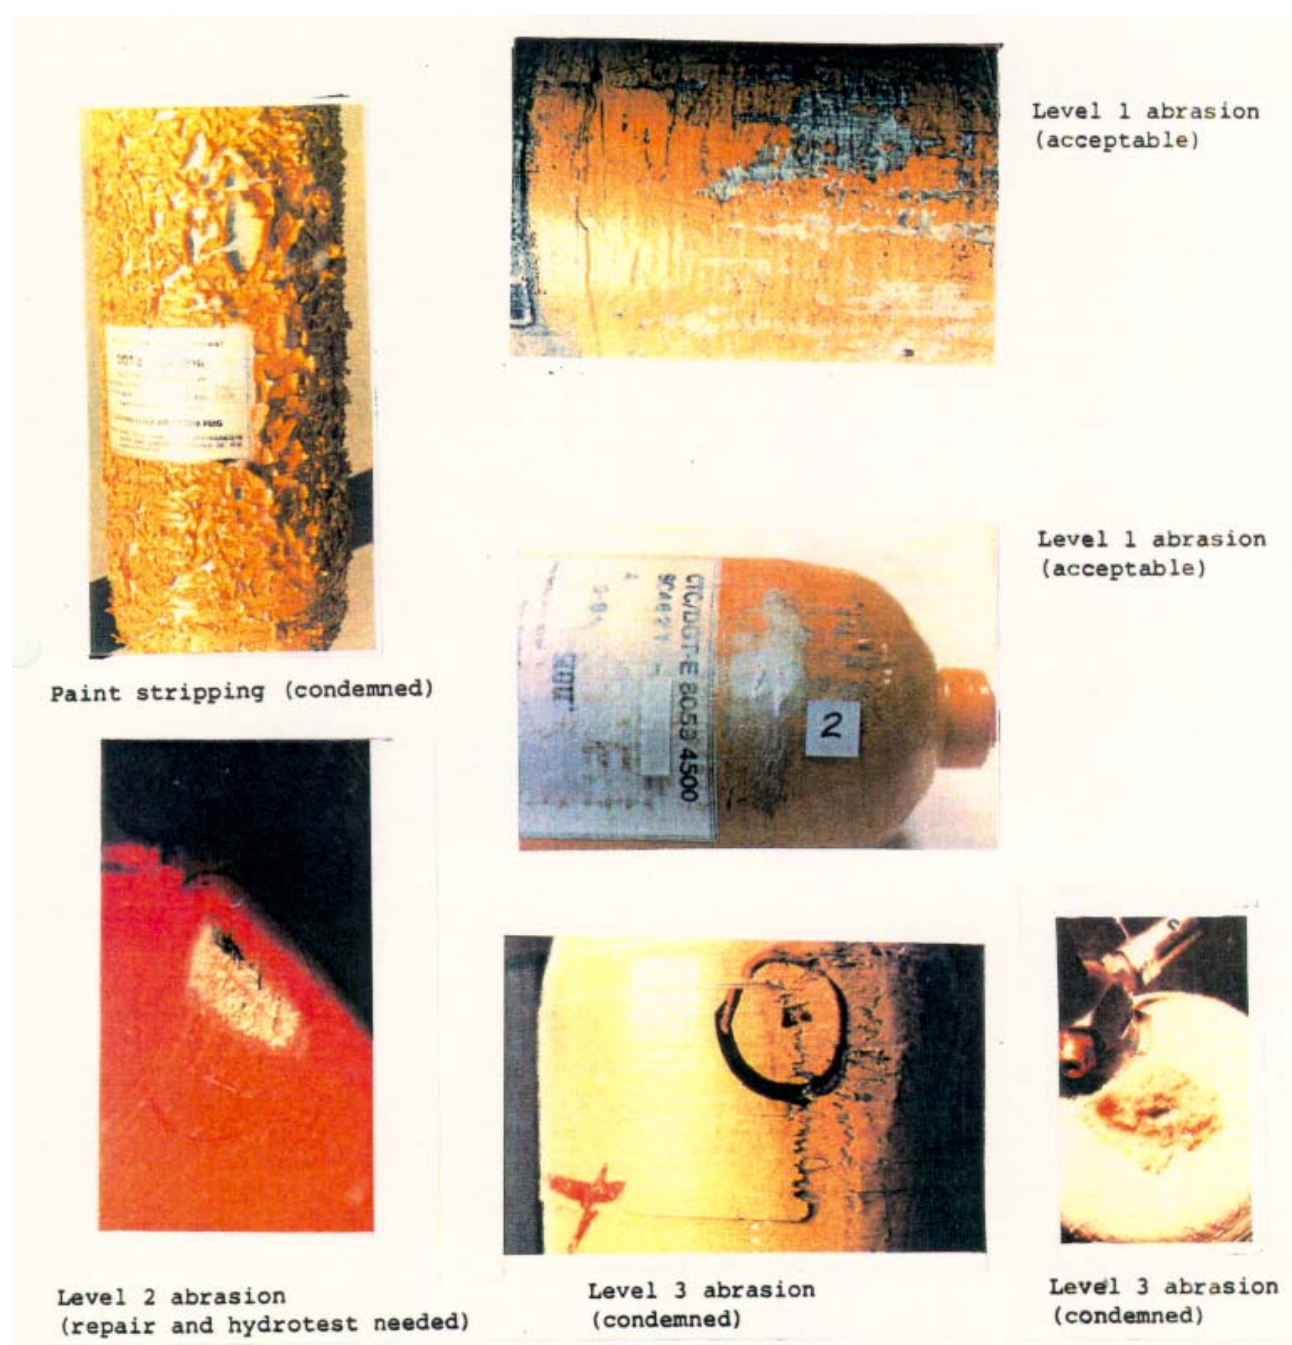

Figure D-2. Flask Abrasions*
- b. **Abrasions (Figure D-2):** Greater loss of surface with numerous fibers visible. Can be caused by sliding contact with a rough surface. Flat spots evident on surface could indicate excessive loss of composite thickness.